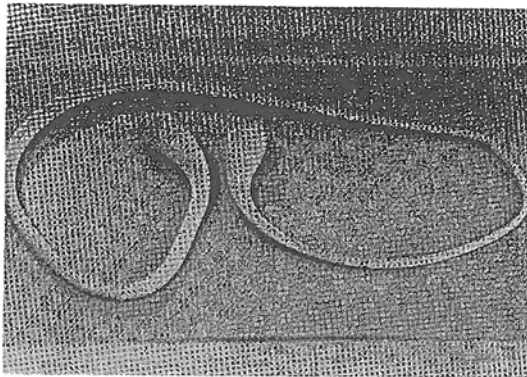

Figure 1 Deformed putty which underwent a large amount of ductile plastic deformation
3. Next, form the putty into a cylinder. The students pull the putty slowly lengthwise and note the extensive plastic deformation (Fig. 1). This is a graphic demonstration of the concept of ductility.